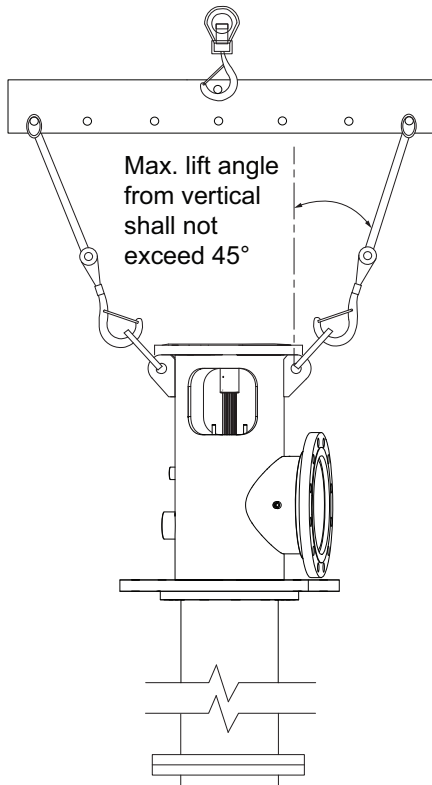
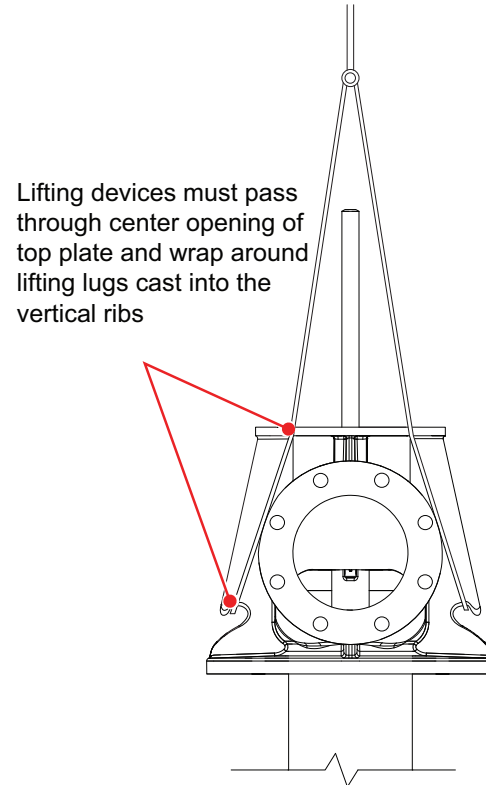

Figure 4-2: Fabricated Head Lifting
Figure 4-3: Cast Head Lifting
- Discharge heads are fitted with lifting lugs suitable to support the entire weight of the pump. Typically two or more lifting lugs are supplied, a minimum two point lifting method is required (refer to Figure 4-2 on page 16 for fabricated heads and Figure 4-3 on page 16 for cast heads).
Lift devices (straps, chains, etc.) attached to the pump must not exceed a 45 degree angle to the vertical position. Exceeding this angle could overload the lifting location (refer to Figure 4-2 on page 16).